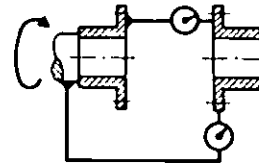

Fig. 7.3
- 5.2.4. Fig. 7.3 illustrates alignment of a coupling type with two N hubs, using a dial indicator.